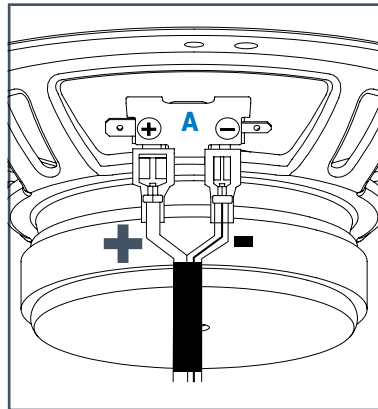

Fig. 26
10.2.1 Insert the terminals, complying with the polarity (Fig. 26 point A).